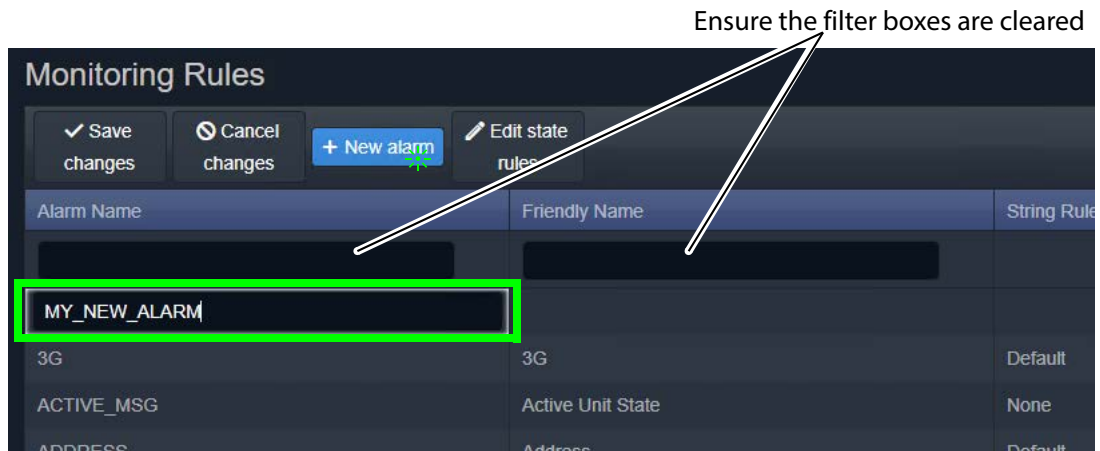

Figure 60: Enter Alarm Name
- 2 Begin to enter the new **Alarm**'s name and select a name from the drop-down list (or enter a new name, if required). This is the message Header that the new Monitoring rule will apply to. See Figure 60.